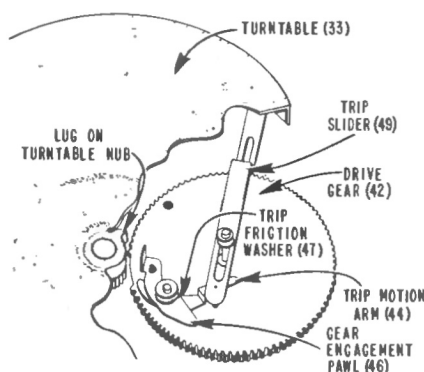

Figure 4A. Position of Drive Gear Out of Change Cycle.
This changer employs a velocity trip, consisting primarily of two parts: the trip motion arm (44), and the gear engagement pawl (46). These parts are mounted near the "dead spot" on the drive gear. See figure 4A.
This record changer uses a velocity type trip, which depends upon a rapid movement of the tone arm toward the centerpost in any area between $2\frac{7}{8}$ " to $\frac{7}{8}$ " from the center of the record. **This trip requires no adjustment.** However, in order for the changer to trip properly, there must be sufficient friction between the trip motion arm (44) and the gear engagement pawl (46). Friction may be increased by placing a very slight amount of a silicone lubricant on the fibre washer (45). If necessary, replace the trip friction washer (47). See Figure 4A.